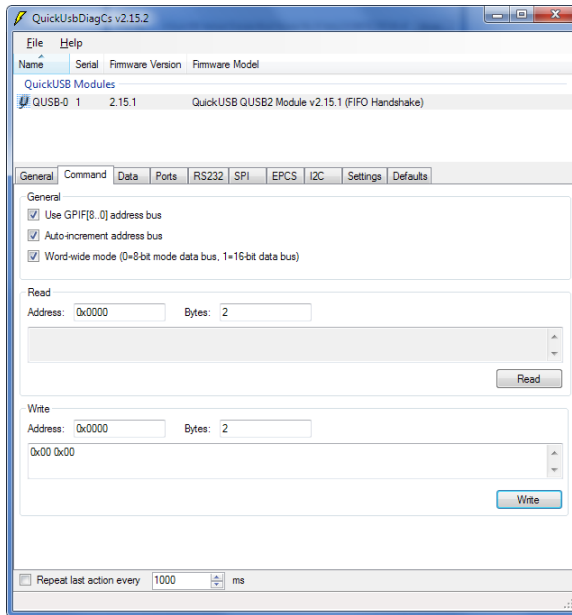

Figure 5 – QuickUSB Diagnostics Command Tab for Loop Back Test
- a. Click on the “Command” tab (see Figure 5)